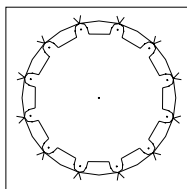

Figure 19D
4. Use a sabre saw to cut along the *inside* circle, between the 7/8" holes. See **Figure 19D**.